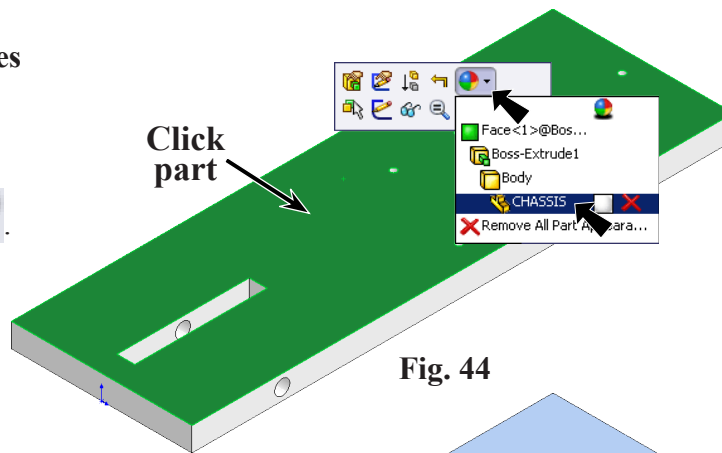

Fig. 44
Step 1. Click the Chassis, click Appearance Callout  on the Content toolbar and click CHASSIS , Fig. 44.